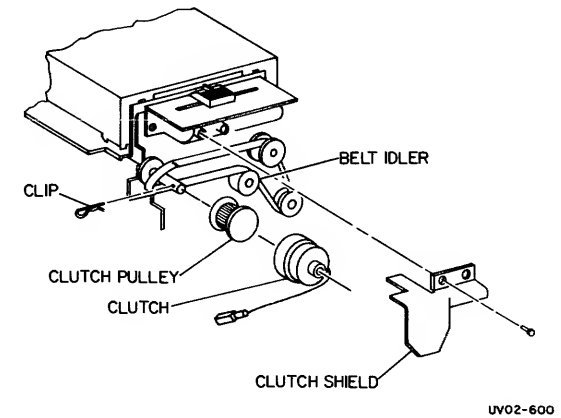

Figure 3-22. CVT Clutch Removal
2. REMOVE CLUTCH SHIELD (Figure 3-22).